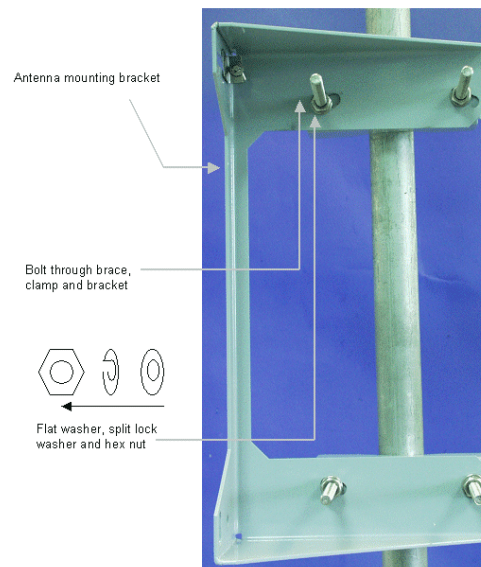

Figure 5-6: Attaching Antenna Mounting Bracket
5. Referring to Figure 5-6, attach the antenna mounting bracket to the upper and lower braces using the M10 flat washer, M10 split lock washer and M10 hex nut (two nuts for the upper brace and two nuts for the lower brace).